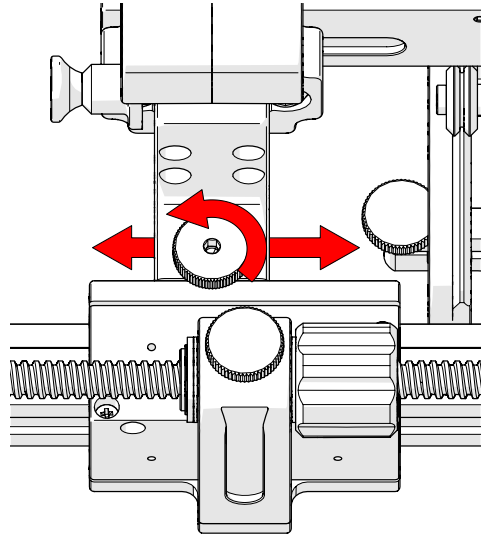

Fig. 206 - Mount to slider pps
3. Loosen the knob to position the probe holder horizontally along the slider pps slider (Fig. 206). Tighten the probe holder adjustment knob when positioning is complete.